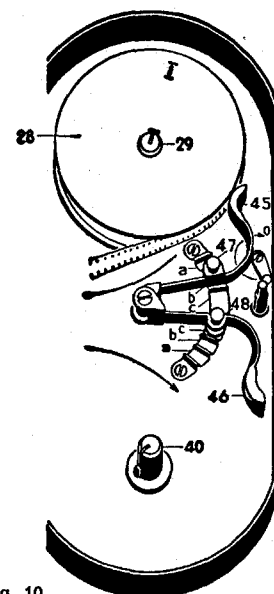

Fig. 10
Before inserting the spools in the camera, open both arms (45 and 46) completely (position c, Fig. 10). Hold the full spool tightly to prevent the film from uncoiling and set it on its spindle (29), with the notch at the centre of the spool facing the red mark on the spindle. When the spool is in place, slightly raise pin (47) and regulate the position of arm (45) according to the spool capacity.